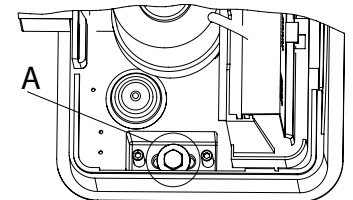

Fig. 6B
- Position the gear motor observing the measurements shown in Fig. 3. Rest the gear motor on the plate in its working position, fit the washers to the M8x50 fixing screws (ref. A Fig. 6B) and screw them in by just a few turns without tightening.